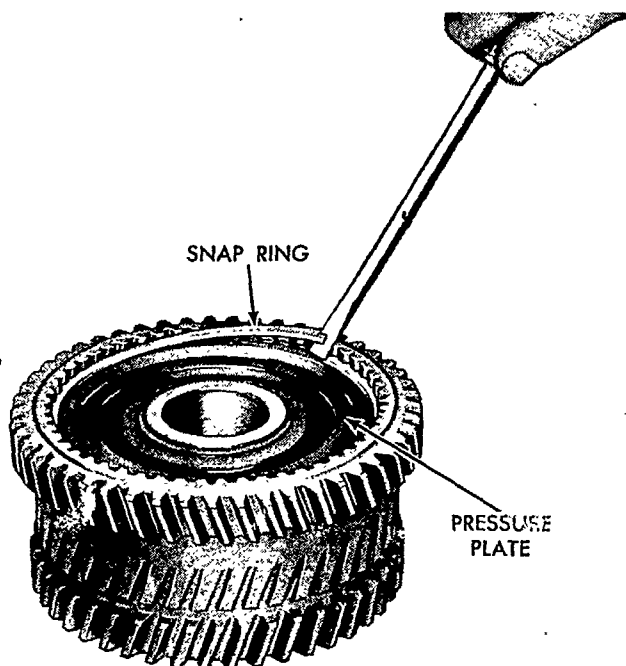

Figure 105
1. Remove the clutch pressure plate snap ring, as shown in Figure 105.